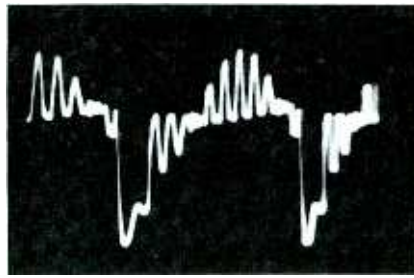

Fig. 7. B-Y signal, sixth bar maximum.
3. Move the vertical input of the scope to the blue CRT control grid. As illustrated in Fig. 7, the third and ninth bars should correspond to the zero reference, with the sixth bar at maximum amplitude. If these bars do not appear in the proper amplitude relationships, trouble is indicated in the oscillator's phase-shifting network or the color-difference amplifier stages.